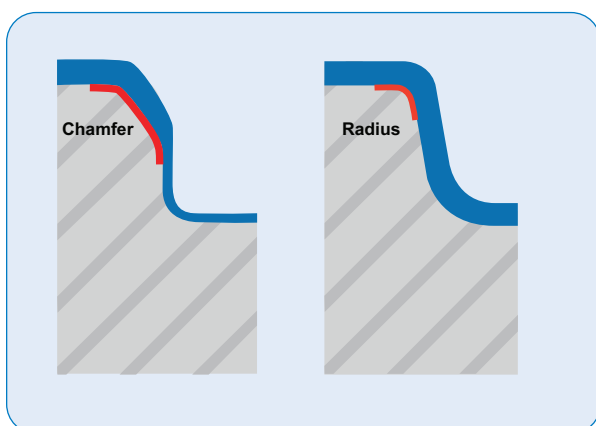

Figure 4
- A radius instead of a chamfer⁶ should be used at the cavity entrance (*Figure 4*). Chamfers increase wall thinning and can decrease the barrier of the cavity. A 0.5 mm radius is recommended, and if sealing flange width allows, use a 1 mm radius.